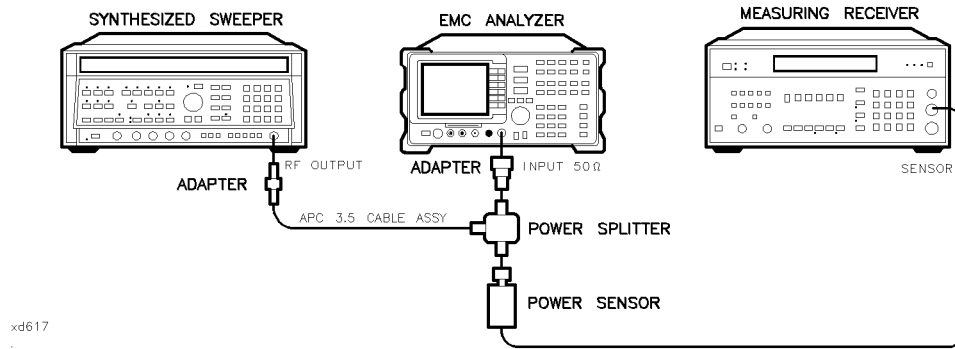

Figure 2-27. Frequency Response Test Setup, ≥ 50 MHz, HP 8594EM
2. Connect the equipment as shown in Figure 2-27.